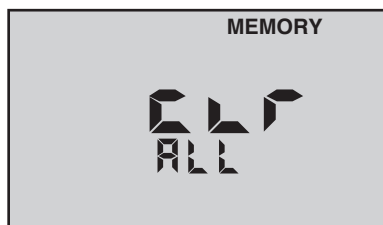

Figure 10
6. To clear **all** records: After pressing , scroll down. "CLF ALL" will be displayed (see Figure 10).